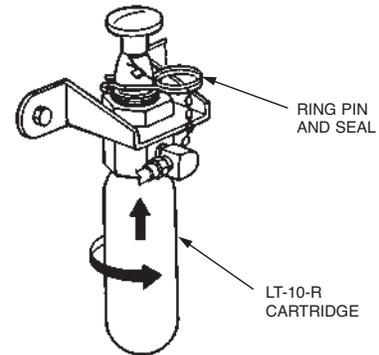

FIGURE 36
5. Install LT-10-R cartridge into manual actuator by completing the following steps (Figure 36):